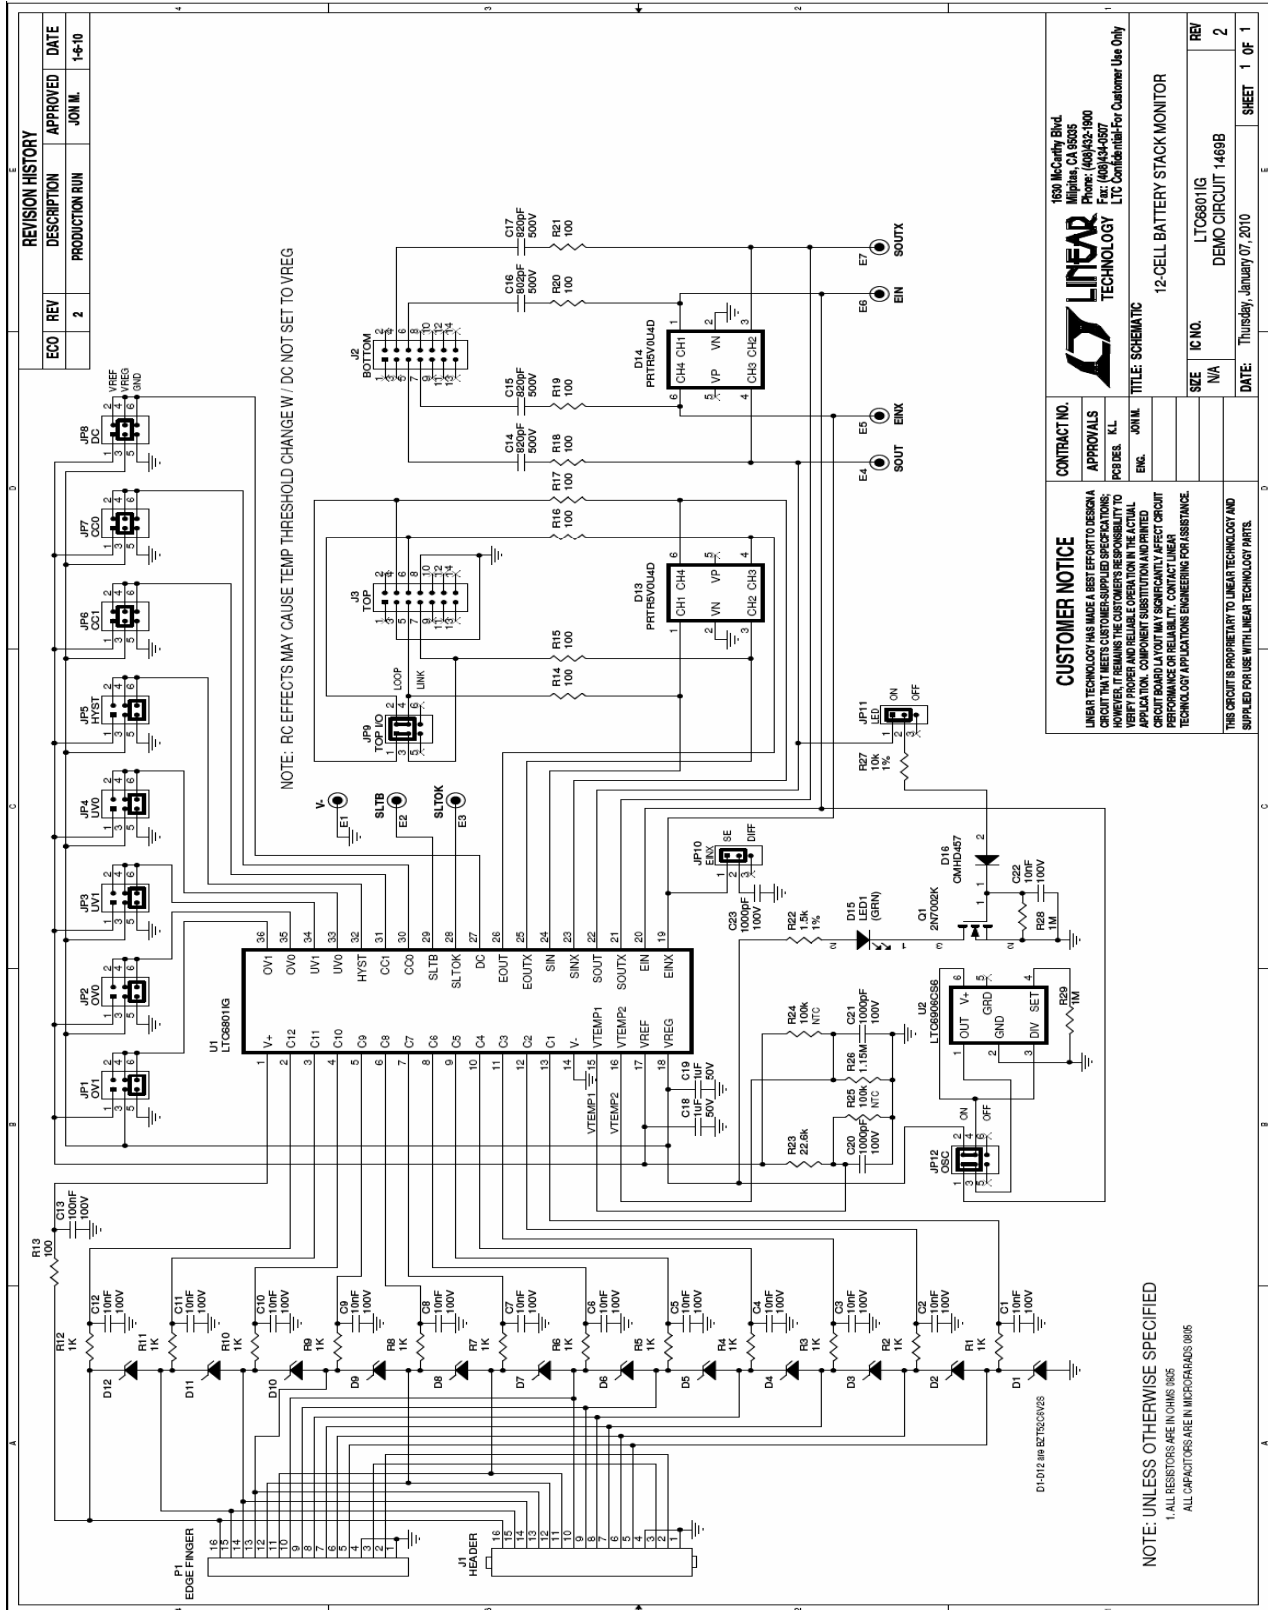

Figure 2. Schematic of DC1469B.
5. Vary the cell simulator supply to see the alarm condition occur (LED dark and SOUT low). For the settings given, thresholds are at about 9V and 45V for the total 12-cell potential. Refer to the datasheet and schematic diagram (see Figure 2) for specific configurations of other thresholds and parameters that may be of interest.